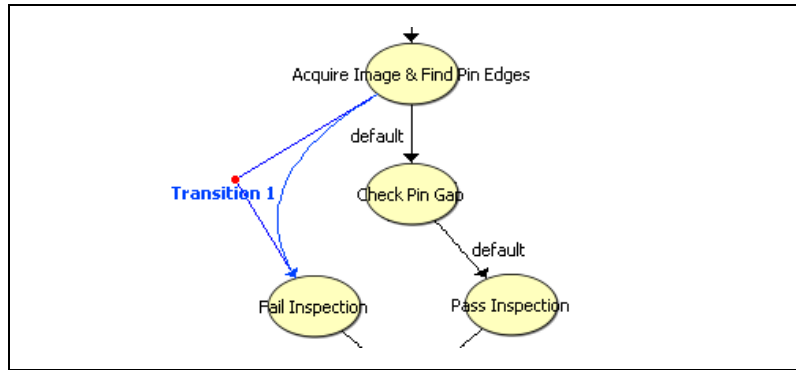

Figure 7-4. Creating a New Transition
13. Click the **Fail Inspection** state to create a transition between the Acquire Image & Find Pin Edges state and the Fail Inspection state, as shown in Figure 7-4.